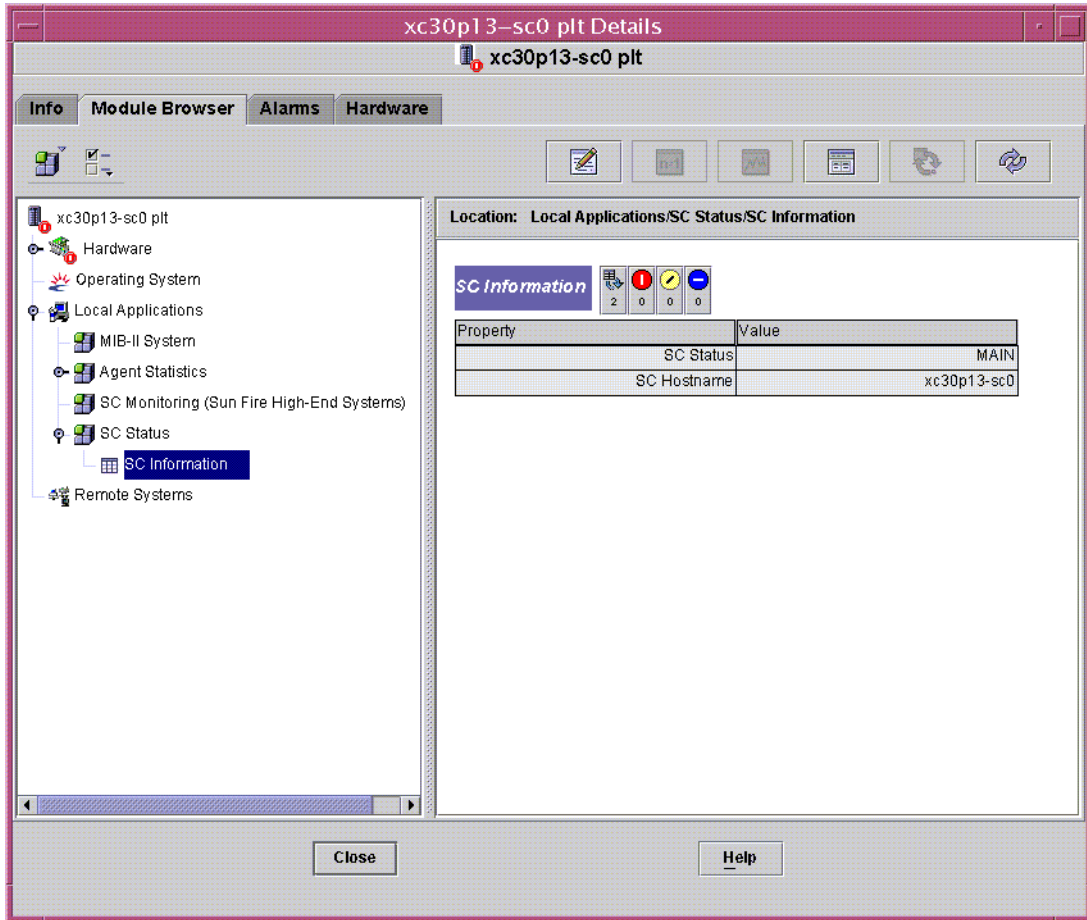

FIGURE 6-6 SC Information Showing MAIN Status
FIGURE 6-6 shows the icon for the module—SC Status—as it is displayed in the host (SC) Details window under the Module Browser tab and Local Applications icon. FIGURE 6-6 also shows the SC Information icon, under the SC Status icon, which you click to view the SC Information table.
- **MAIN** – This system controller is acting as the main system controller (FIGURE 6-6).